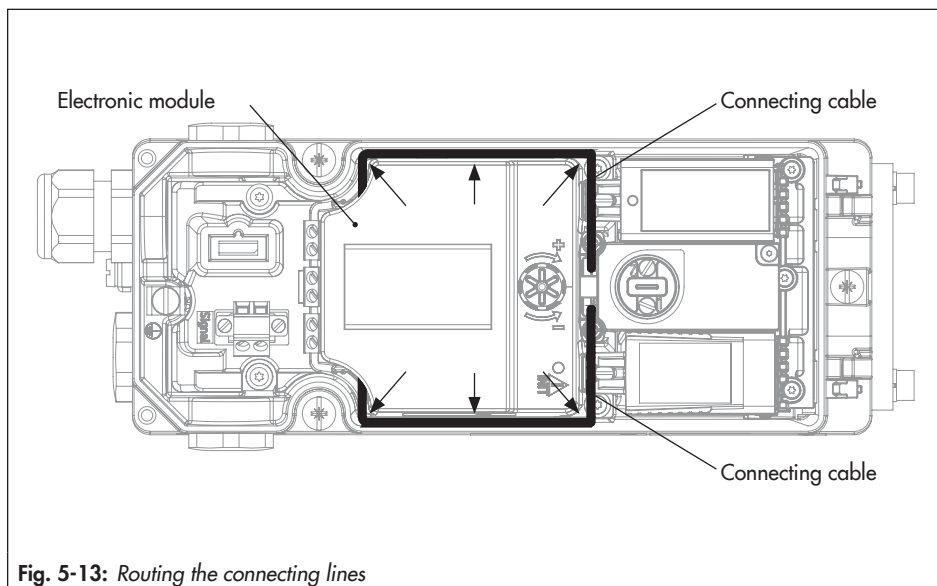

Fig. 5-13: *Routing the connecting lines*
4. Clamp the two connecting lines between the electronic module and the positioner housing and push them downward (as shown in Fig. 5-13). Make sure that the wires do not project out of the housing and get caught when closing the housing cover.